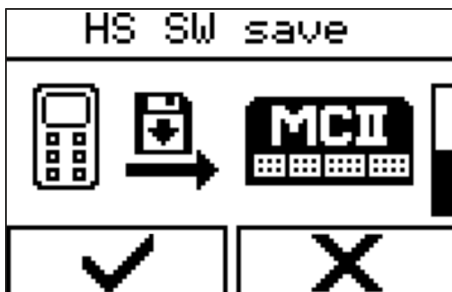

Fig. 66: Selecting a menu
1. → Select the menu via 'Hand switch' → 'Update' → 'HS SW Save' (Fig. 66).